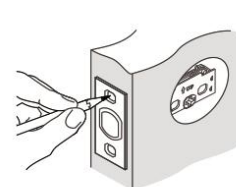

Figure 3c
- Insert the deadbolt in hole, keeping it parallel to the face of the door. Mark the outline and remove the deadbolt (Figure 3c).